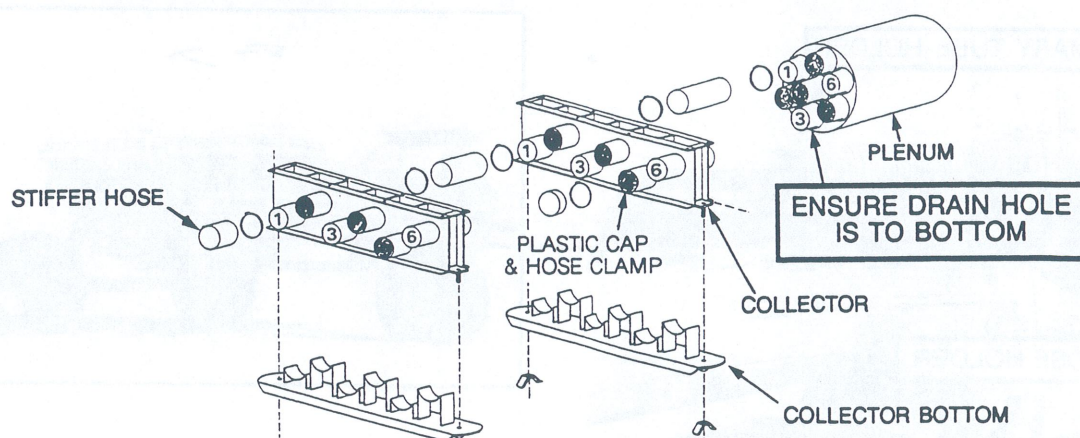

Figure 43
- (A) For Units using 3 primaries for up to 30 runs, the plenum should be mounted to the fan and the collectors mounted to the metering bodies as shown in Figure 43.